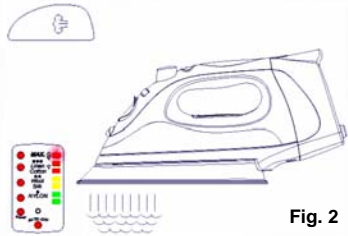

Fig. 2
- Place the iron on its heel on a stable, protected surface and allow the iron to heat for approximately two (2) minutes or until the temperature settings on the right side of the LED display panel have stopped flashing.
- Slide the variable steam control to the right to increase the amount of steam. When using extra steam, the iron uses more water and it may be necessary to fill the water tank more often. (Fig. 2)